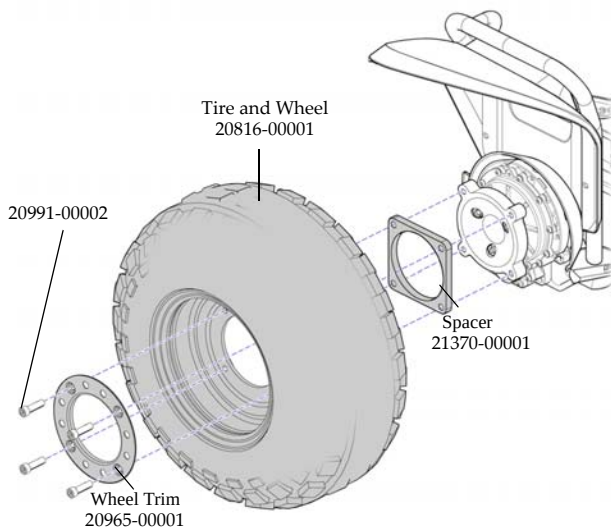

Figure 4-3: Remove or Install Tire/Wheel Assembly, x2 Turf
4. Use 8mm hex wrench to remove (4) 8mm fasteners. See Figure 4-3.
3. Place spacer over hub adapter; align mounting holes. See Figure 4-3.
6. Thread (4) 8mm fasteners (included with kit) through trim and wheel and into hub adapter.
7. Lift off tire/wheel assembly, including spacer. See Figure 4-3.